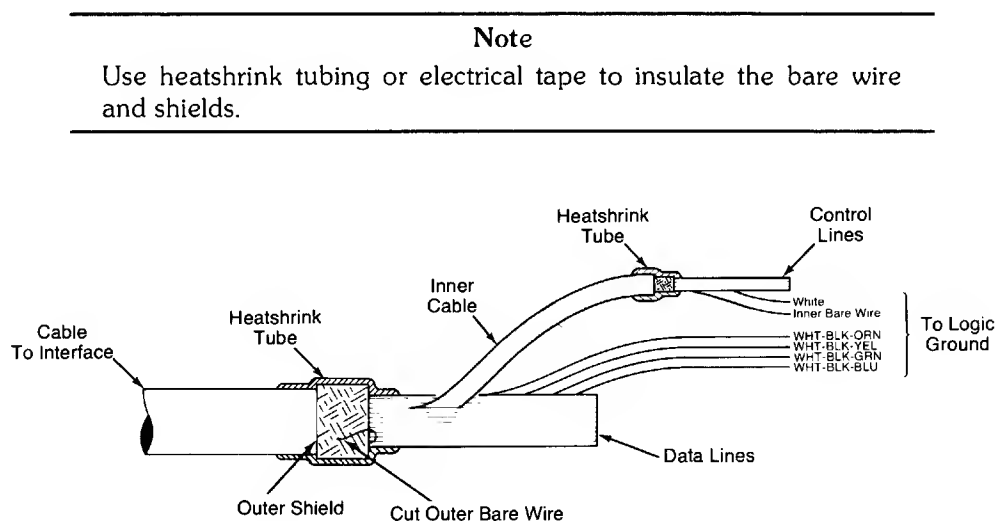

Figure 2-9. Preparing the Interface Cable
Prepare the peripheral end of the interface cable as shown in Figure 2-9.
9. Connect the logic ground wires shown in Figure 2-9 to your peripherals logic ground.